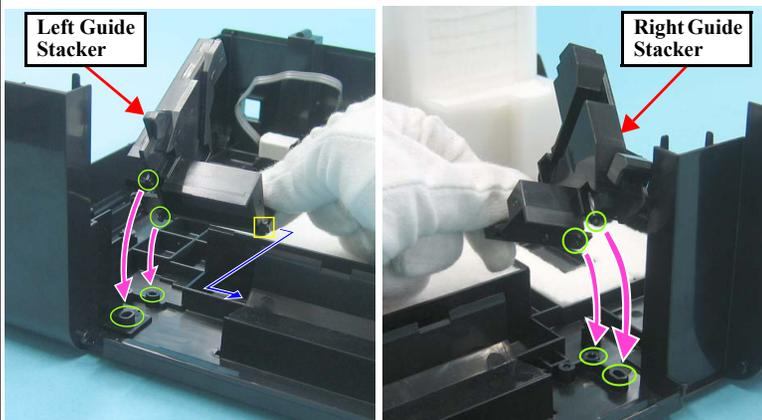

Figure 4-65. Installing the Left / Right Guide Stacker
- When installing the Left Guide Stacker, insert the rib indicated with □ in Fig.4-65 and match the positioning holes and guide pins indicated with ○ (two pairs).
- When installing the Right Guide Stacker, match the positioning holes and guide pins indicated with ○ (two pairs) in Fig.4-65.